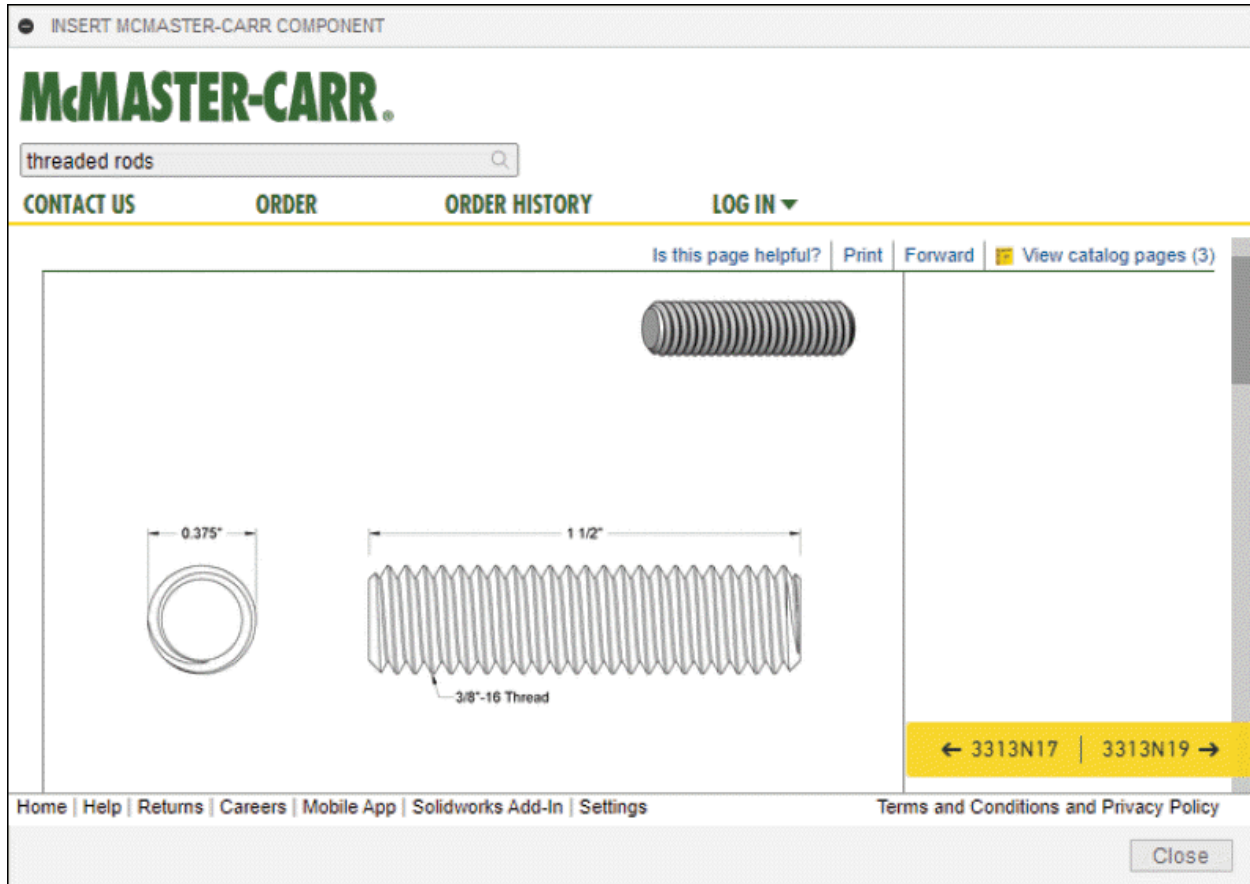

Figure-24. Model for selected component
- Click on the **Product Detail** link button for selected component. The drawing and model of selected component will be displayed at the bottom in the window; refer to Figure-24.